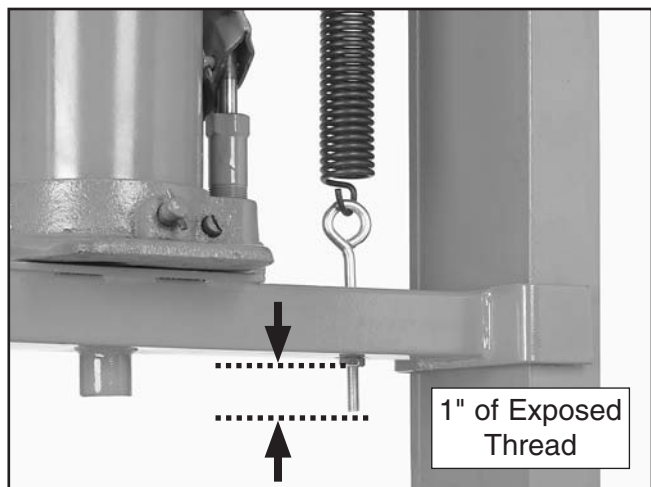

Figure 13. Return spring adjustment.
13. Using a 14mm wrench, tighten both eye bolt hex nuts until 1" of thread is exposed, as shown in **Figure 13**.